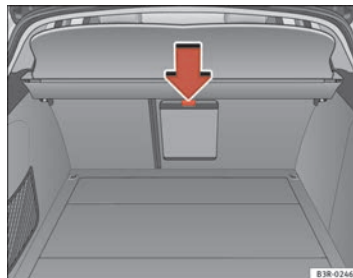

Fig. 128 Detailed view of the rear of the rear backrest: Ski bag cover
- Press the release catch for the ski bag cover ⇒ page 150, fig. 128 -arrow- and swivel the cover downwards.